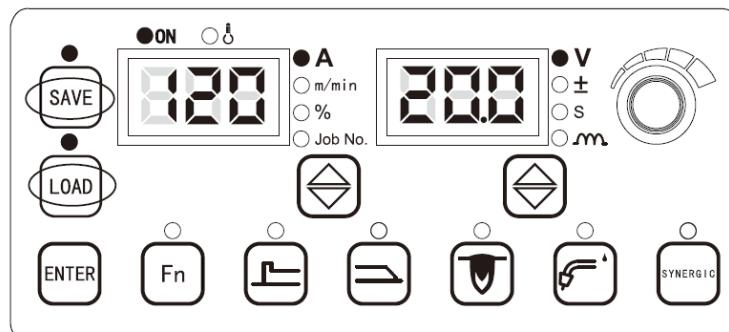

Figure 3-27 Parameter range locking screen
5. In the parameter range locking mode, the **SAVE**  and **LOAD**  indicators keep flashing. See Figure 3-27. The current and voltage can be adjusted only within the specified ranges.